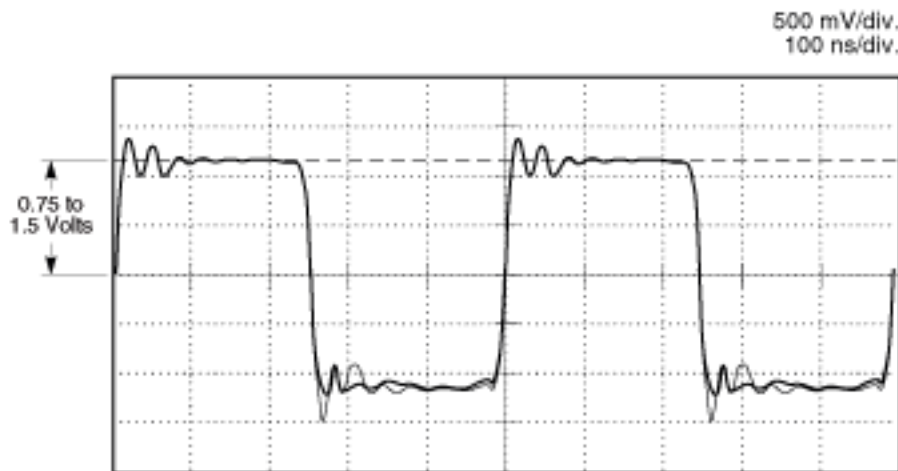
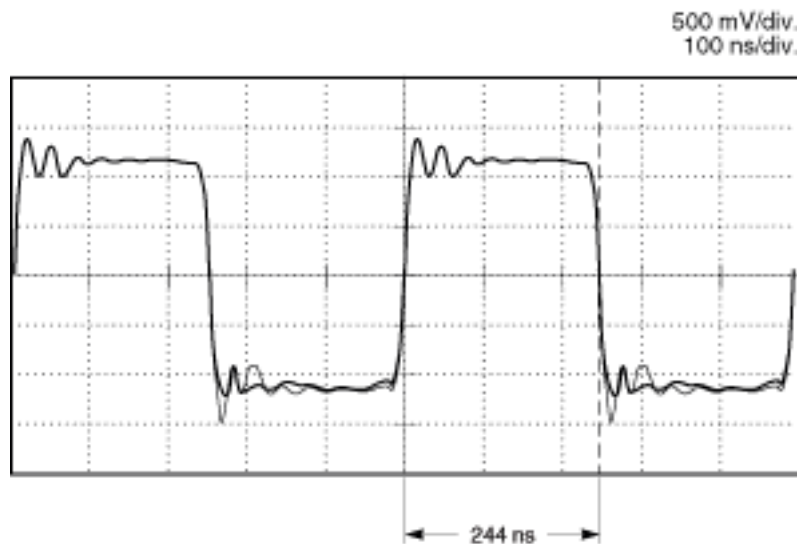

Figure E2-4. 2048 kHz Voltage Peak Test
Figure E2-5. 2048 kHz Pulse Width Test
1. Using a 75 Ω BNC cable, connect the oscilloscope to the 2048 kHz Squelched output and verify that an appropriate signal is present as shown in Figure E2-4 and Figure E2-5.
Use the 75 Ω feed-thru and the 75 Ω cable. Verify that the amplitude peak and pulse width of each output checked complies with the waveform shown in Figure E2-4 and Figure E2-5.